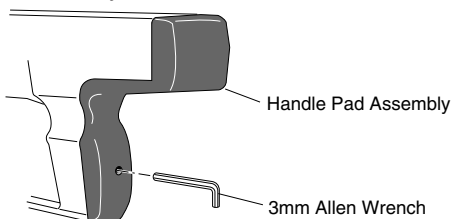

Figure 5 - Removing Handle Pad Assembly
1. Loosen screw on back of handle pad assembly with 3mm Allen wrench. Do not remove the screw from the assembly (see Figure 5).